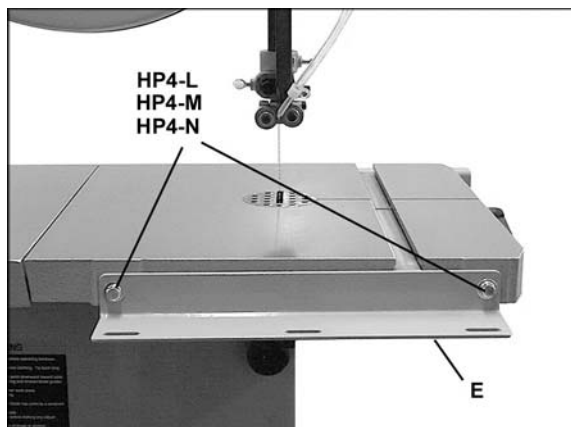

Figure 26
Refer to Figures 26 through 29.
- Install *front rail* (E, Figure 26) to the main table using two *M6x20 hex cap screws* (HP4-L), two *1/4" lock washers* (HP4-M) and two *1/4" flat washers* (HP4-N). Finger tighten only at this time.
3. Tighten both screws on the front rail (HP4-L, Figure 26) with a 10mm wrench.
4. If the fence is not square to the table, slightly loosen the two screws in the front rail (see Figure 26) and raise or lower one end of the front rail assembly until fence is square to table.